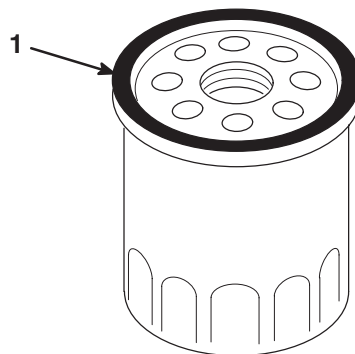

Figure 40
7. Use your finger to coat the gasket on the new filter with clean engine oil (Fig. 40).